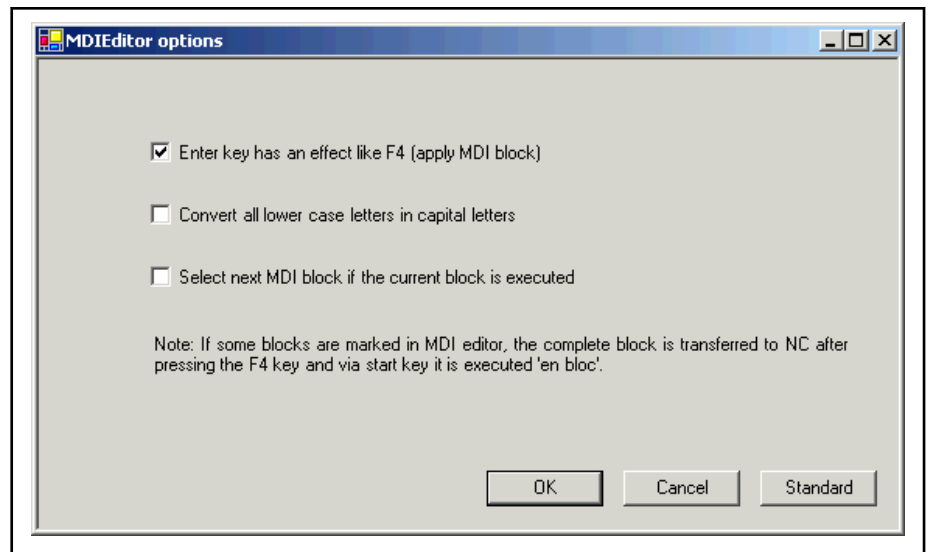

Fig. 5-17: "Options" dialog for the MDI editor
- <F8>** An "Options" dialog is opened, see fig. 5-17 "Options" dialog for the MDI editor on page 83.